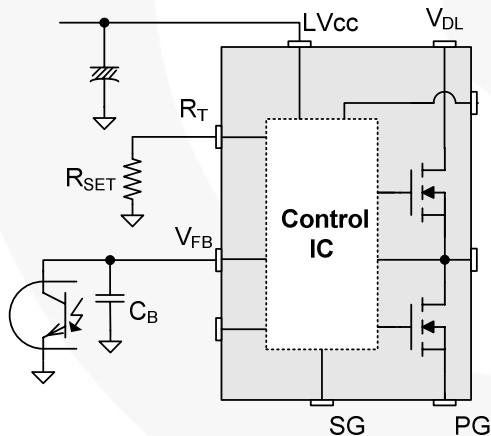

Figure 18. PWM Control Configuration
**2. PWM Control:** Figure 18 shows the typical control circuit configuration. The opto-coupler transistor should be connected to the  $V_{FB}$  pin in parallel with the feedback capacitor to control the duty cycle.